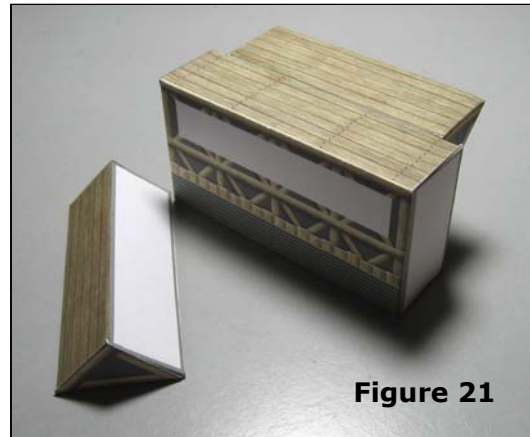

Figure 21
1. Apply glue to the non-printed areas on the long sides of the Trestle Base. Fit a Buttress to either surface, being careful to align the center-marks. Be certain that the road surfaces of the Buttresses are flush with the road surface of the Trestle Base. Also take care that the entire assembly is as level as you can make it. This will insure a flat, even join with the Road Surface component (Figure 21).